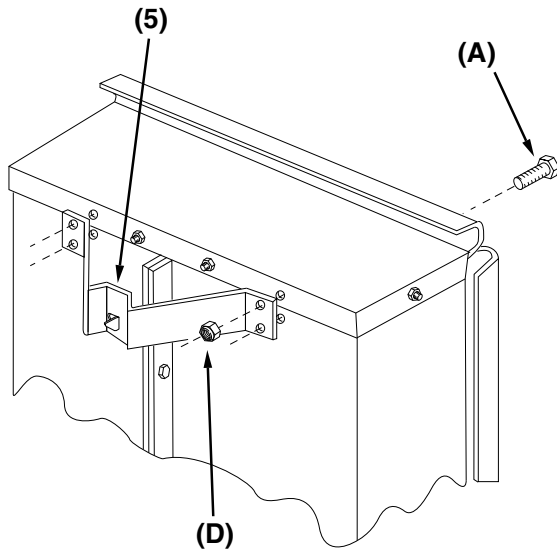

Figure 9
STEP 9 (SEE FIGURE 9): Attach the latch stand bracket (5) using four 1/4" x 5/8" hex bolts (A) and 1/4" nylock nuts (D). Make sure the tab in the latch stand bracket is positioned closest to the rear of the cart as shown below.